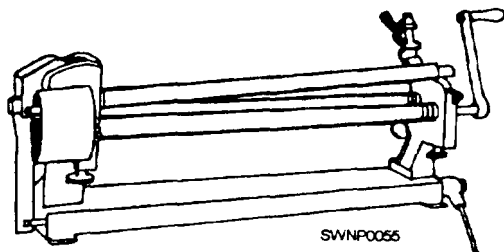
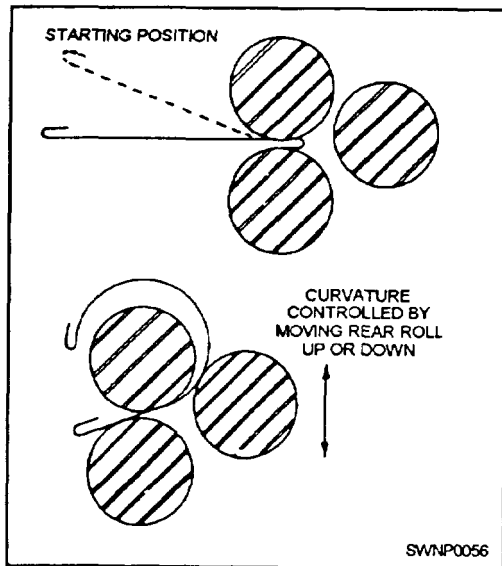

Figure 2-38.—Slip roll forming machine.
Figure 2-39.—Forming cylinders on rolling forms.
**ROLL FORMING MACHINE.**— When cylinders and conical shapes are being formed, no sharp bends are obviously required; instead, a gradual curve has to be formed in the metal until the ends meet. Roll forming machines have been invented to accomplish this task. The simplest method of forming these shapes is on the SLIP ROLL FORMING MACHINE (fig. 2-38). Three rolls do the forming (fig. 2-39). The two front rolls are the feed rolls and can be adjusted to accommodate various thicknesses of metal. The rear roll, also adjustable, gives the section the desired curve. The top roll pivots up to permit the cylinder to be removed without danger of distortion. Grooves are machined in the two bottom